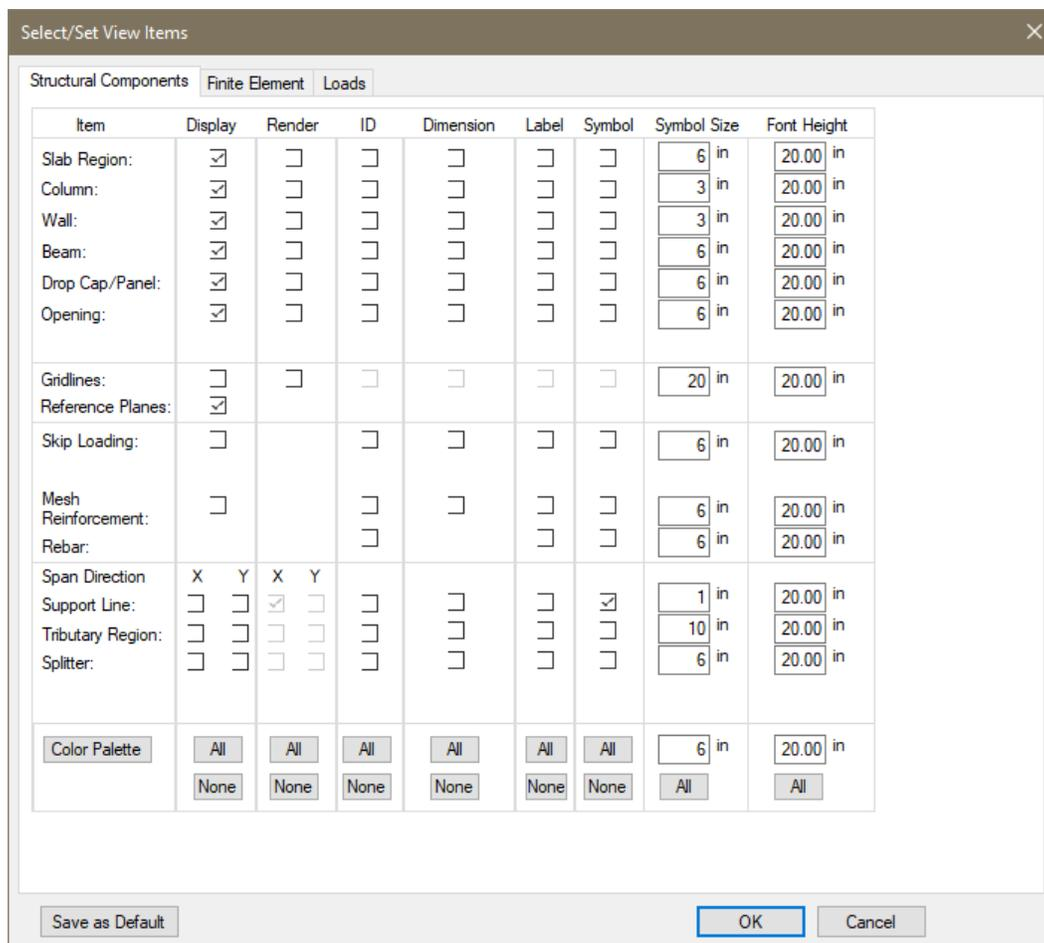

Figure 6-1
- On the *Structural Components* tab, make the selections as shown in **FIGURE 6-1**.